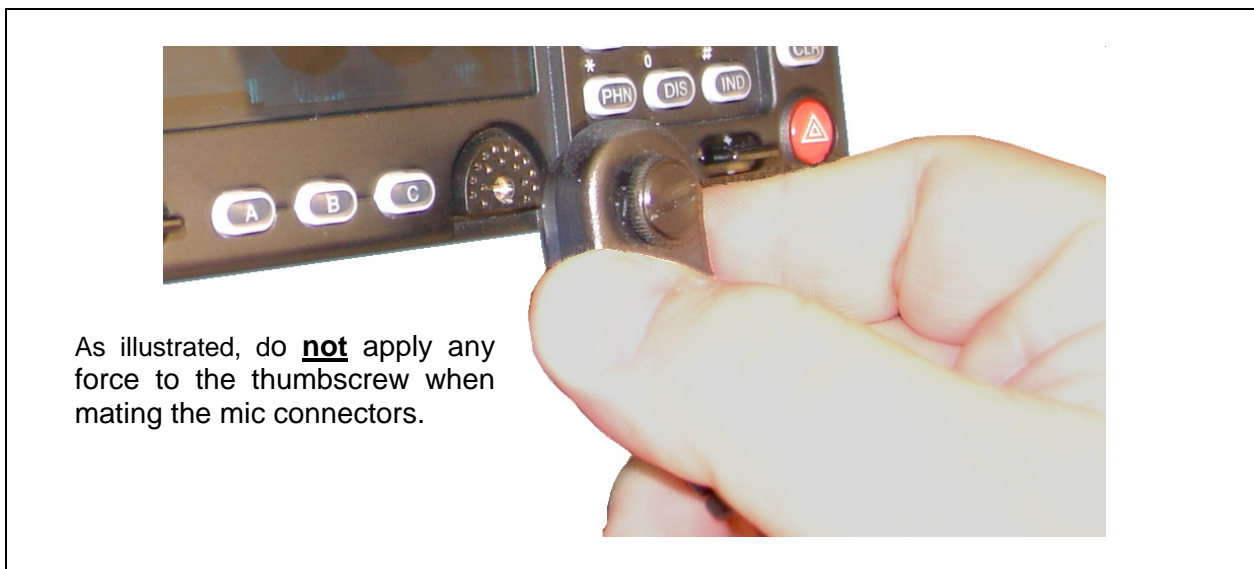

Figure 10-1: Attaching the Microphone to the CH-721 Control Head
1. As illustrated in Figure 10-1, grasp the mic's connector with a thumb and index finger on the sides of the connector just adjacent to the thumbscrew.